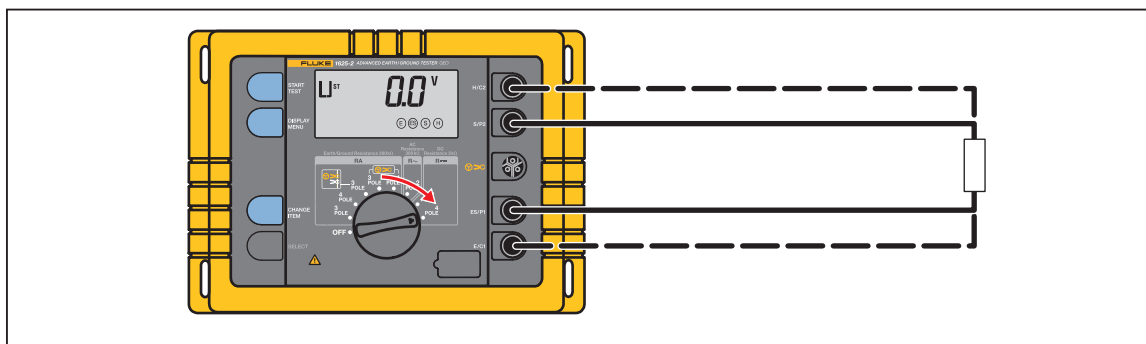

Figure 13. Resistance Measurement (R_{Ω})
1. Connect instrument as shown in Figure 13.